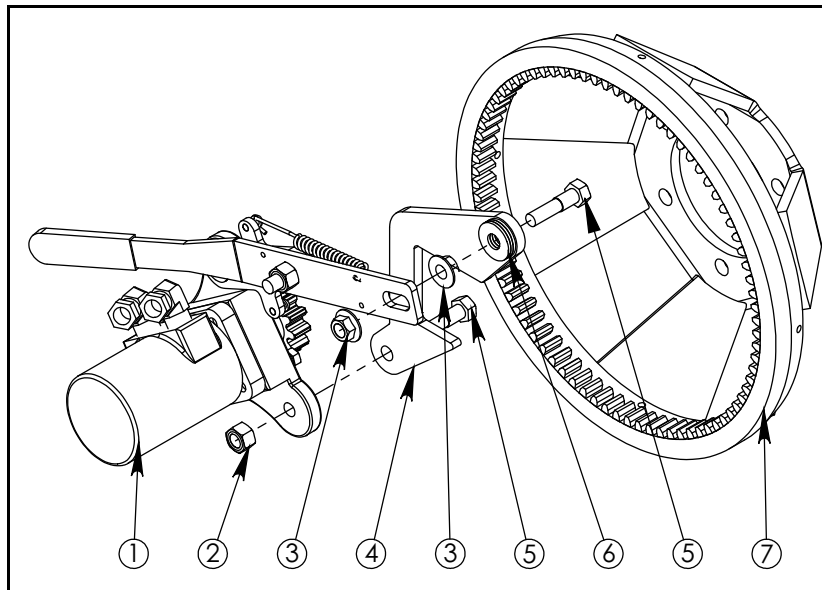
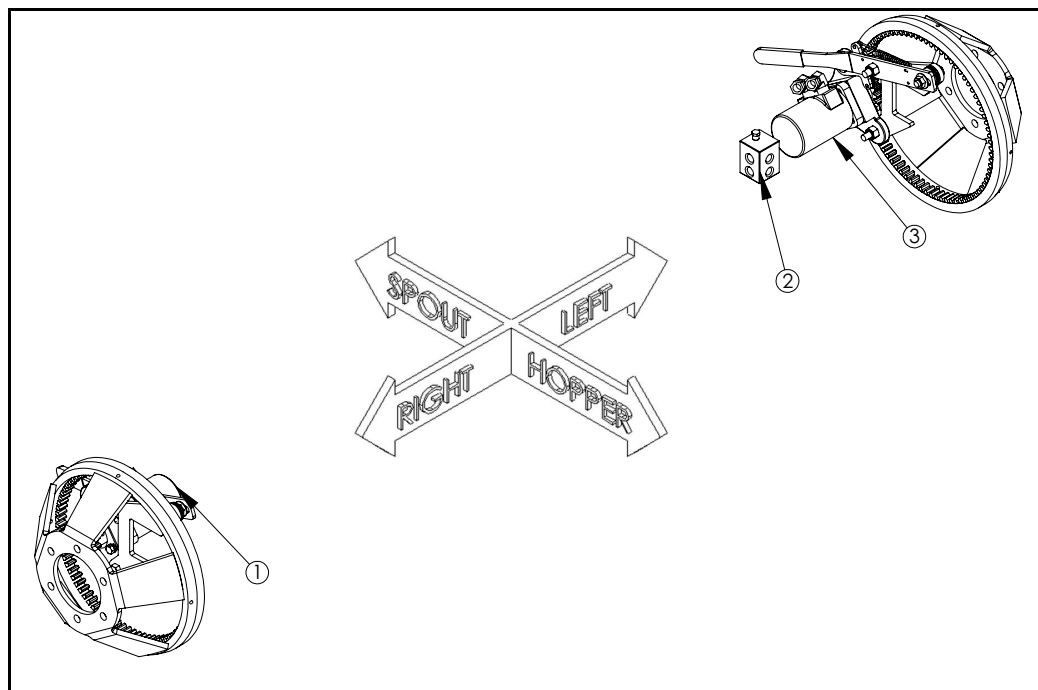

Figure 3.12 Left Wheel Move Drive Assembly
Figure 3.13 Wheel Move Hydraulic Components
1. Fasten motor assembly (1) to wheel move axle (4) using a 1/2" x 2" bolt (5) and 1/2" locknut (2) (see Figure 3.12).
2. Fasten motor assembly (1) at handle to wheel move axle (4) using a 1/2" x 2" bolt (5), 1/2" flat washers (6), and 1/2" flange nuts (3).
3. Fasten the ring gear (7) to the axle with the wheel bolts when installing the conveyor wheels.
4. The cushion block installation (see Figure 3.13) is covered in the hydraulic hose assembly section.